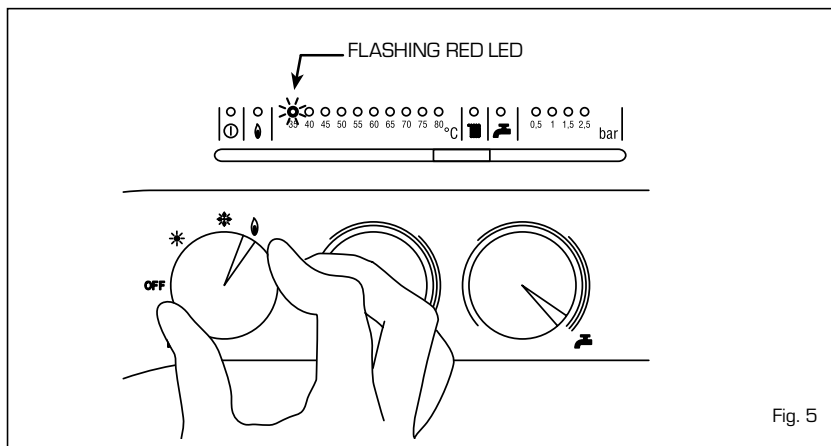

Fig. 5
– **Safety stat trip (fig. 5)**